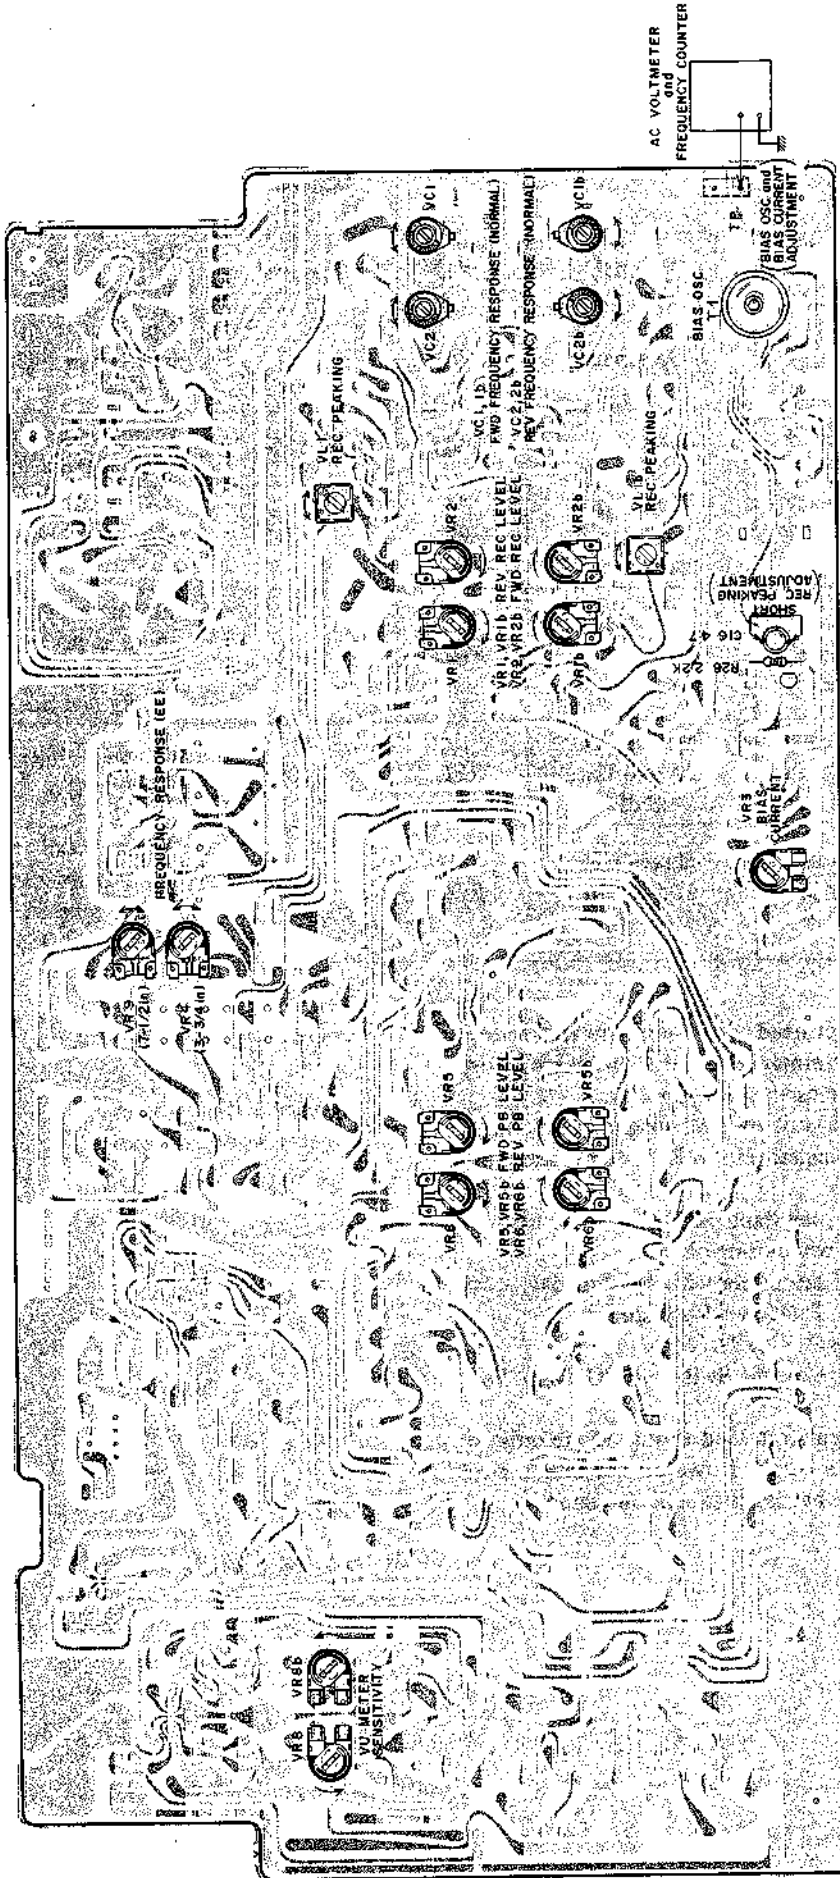

Fig. 16 Pre Amp P.C Board T1009A510A
6. Stop Recording bias oscillator while making Rec Peaking adjustment (Refer to Fig. 16).